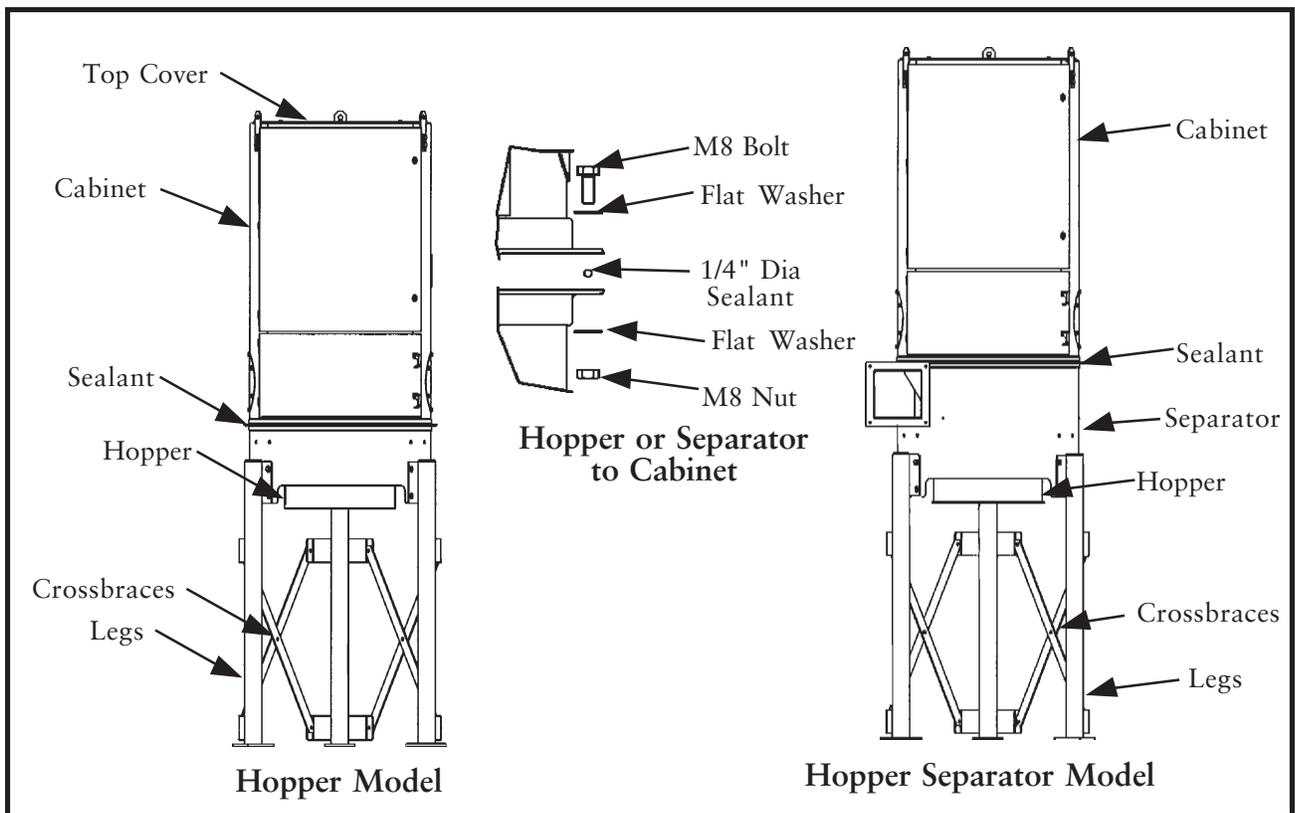

Figure 3
1. Assemble leg crossbraces to the hopper or separator, as shown in Figure 3 and 4. Legs and crossbraces should be located to allow access from the desired direction. Consider this access when installing legs and crossbracing. Also consider access to the cabinet doors.
2. Assemble the cabinet to the hopper or separator using bolts, nuts, washers, and sealant as shown in Figure 3.